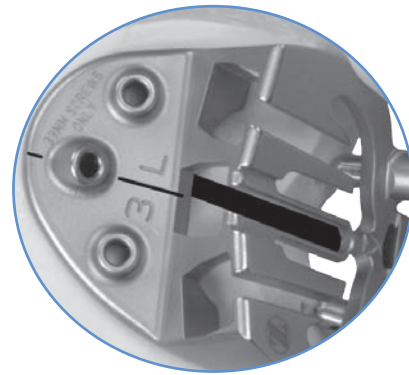

Fig. 26
- The engraved line on the Milling Guide and the central milling track represents the location of the patellofemoral track on the implant and may be used as reference (Fig. 26).